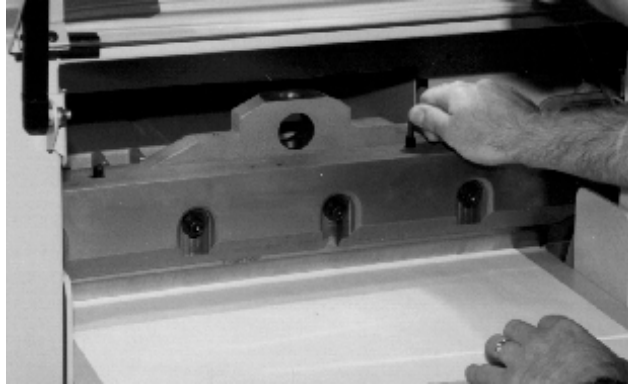

Figure 23
13. Turn the knife adjusters down evenly, a little at a time, until the knife cuts through the bottom sheet of paper the entire length of the cutting stick (Figure 23). Turning the screws down evenly prevents uneven wear on the knife and cutting stick.